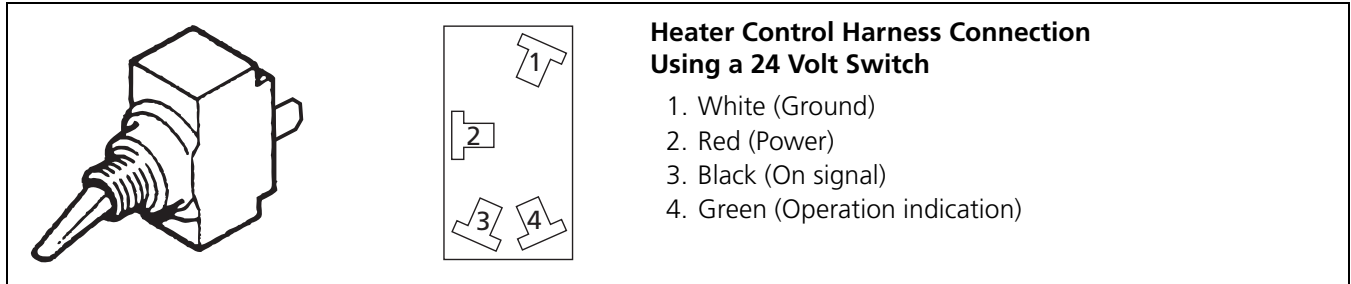

Figure 29: Toggle switch
- Switch, see circuit diagrams in Figures 29 and 34.